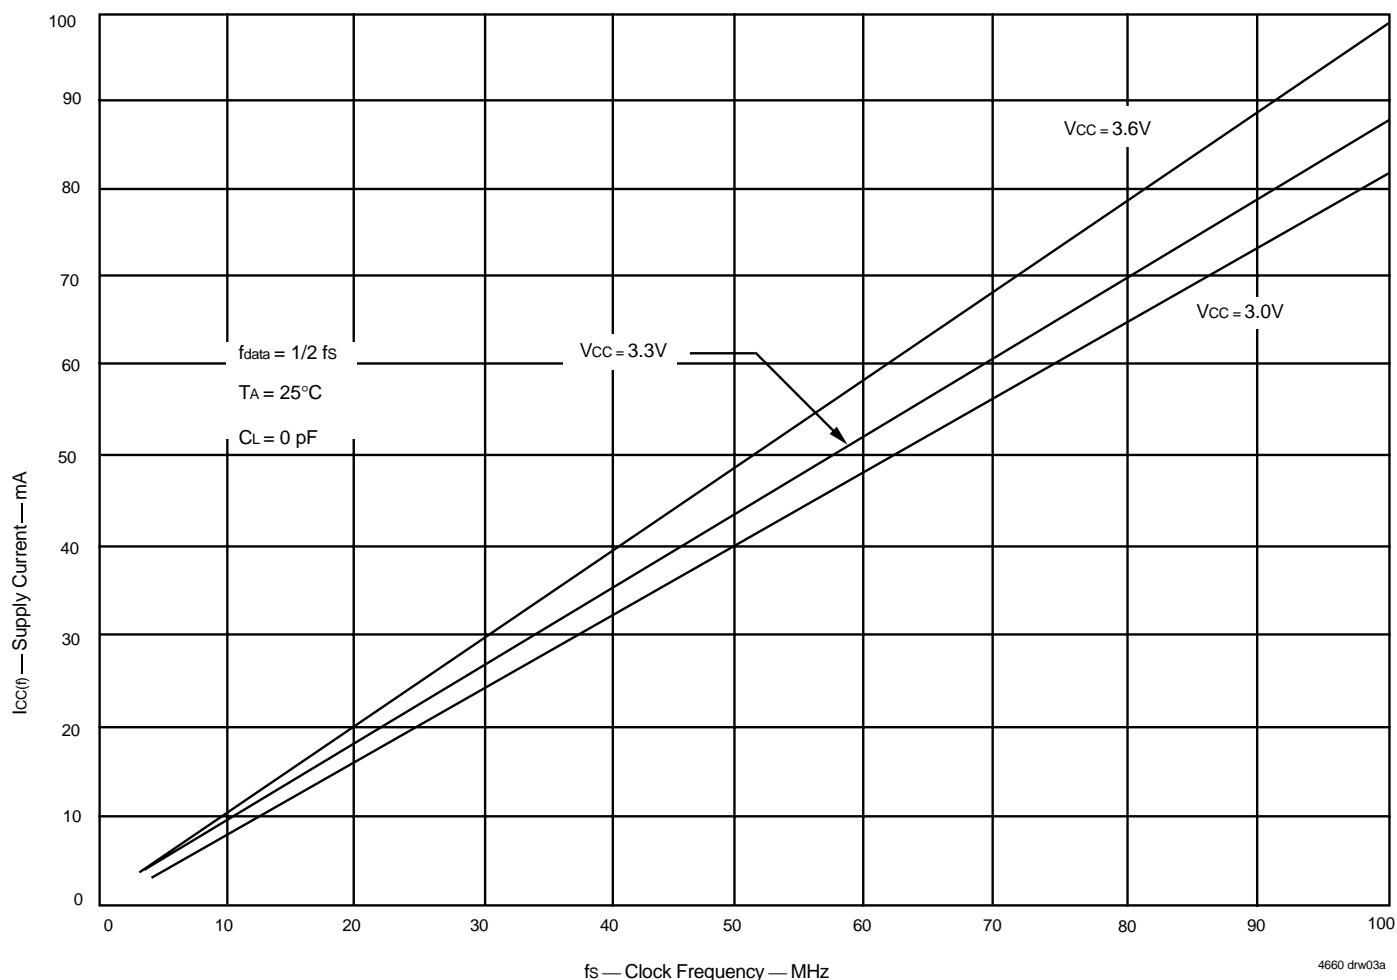

Figure 1. Typical Characteristics: Supply Current (I_{CC}) vs. Clock Frequency (f_s)
3. For additional I_{CC} information, see Figure 1, *Typical Characteristics: Supply Current (I_{CC}) vs. Clock Frequency (f_s)*.
The $I_{CC(f)}$ current for the graph in Figure 1 was taken while simultaneously reading and writing a FIFO on the IDT72V3652/72V3662/72V3672 with CLKA and CLKB set to f_s . All data inputs and data outputs change state during each clock cycle to consume the highest supply current. Data outputs were disconnected to normalize the graph to a zero capacitance load. Once the capacitance load per data-output channel and the number of these device's inputs driven by TTL HIGH levels are known, the power dissipation can be calculated with the equation below.
With $I_{CC(f)}$ taken from Figure 1, the maximum power dissipation (P_T) of these FIFOs may be calculated by: